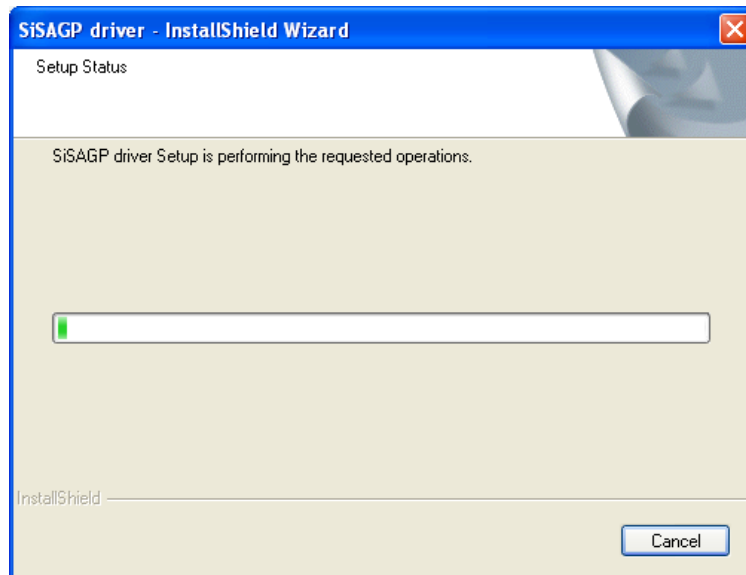

Figure 7-7: AGP Driver Installation Progress
Step 8: The installation of the AGP driver is initiated and the progress screen in **Figure 7-7** appears.